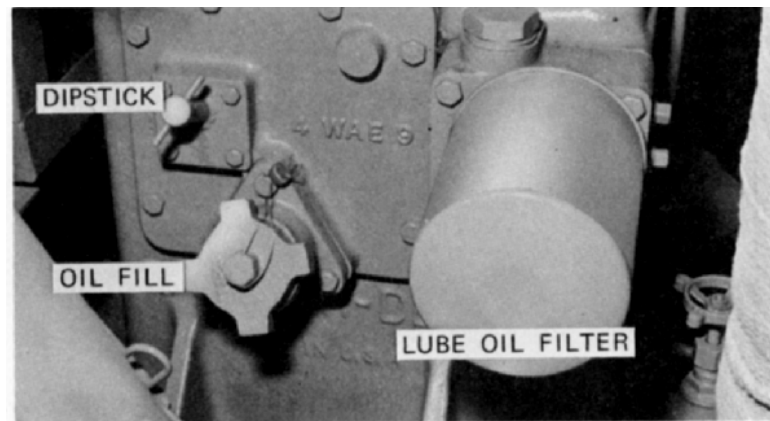

FIG. 11. AIR COMPRESSOR.
4. Compressor Lube Oil (Gardner-Denver Compressor) - A dipstick near the Fill cap indicates when crankcase is full and how much oil is needed to bring oil level to FULL mark (see Fig. 11).